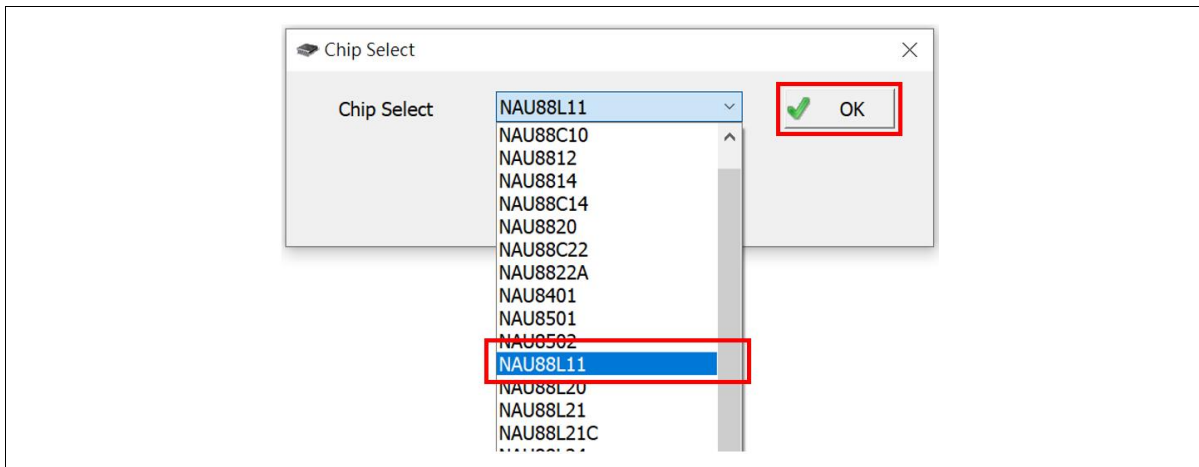

Figure 3-4 NuvotonAudioGUI Operating Step (1)
1. Open NuvotonAudioGUI, choose the corresponding IC Part Number, and click [OK], as shown in Figure 3-4.